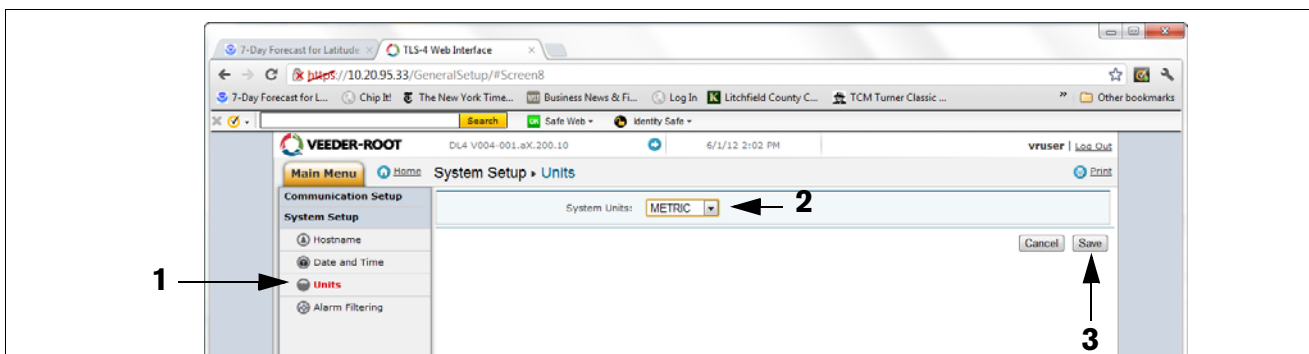

Figure 19. Selecting System Units
16. From the System Setup menu, click on the Units page(1), select the desired units (2), click Save (3) (see example in Figure 19).